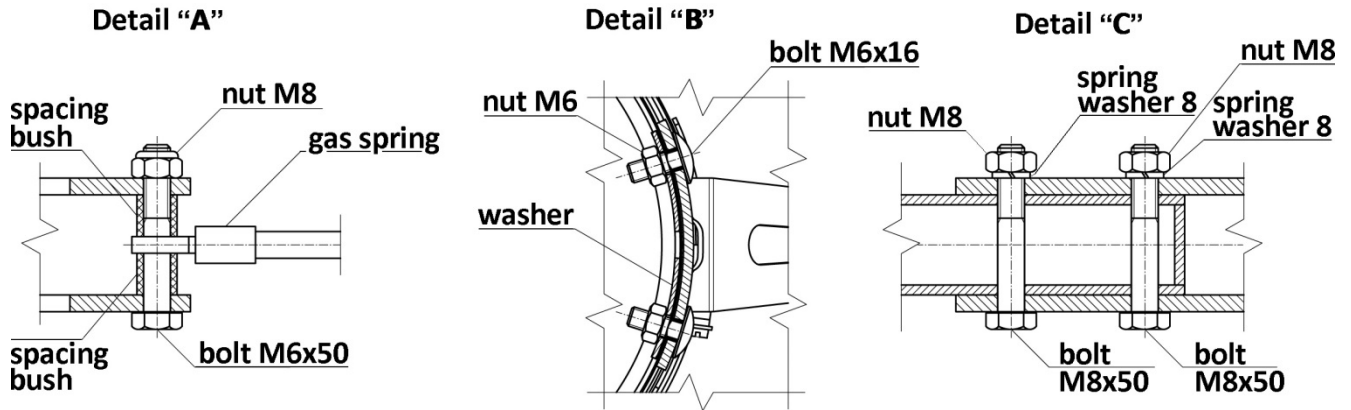

Fig. No.6 – Assembly instruction of the extraction arms type ERGO LUX-M;-K;-L;-D
5. Screw together the terminations of the gas spring with a plate of the lower joint – according to Fig. No.6 Detail “A” (see also Photo No.1).
7. Screw up the element of the hood joint, with the pipe – according to the information in Fig. No.6, Detail “B”.